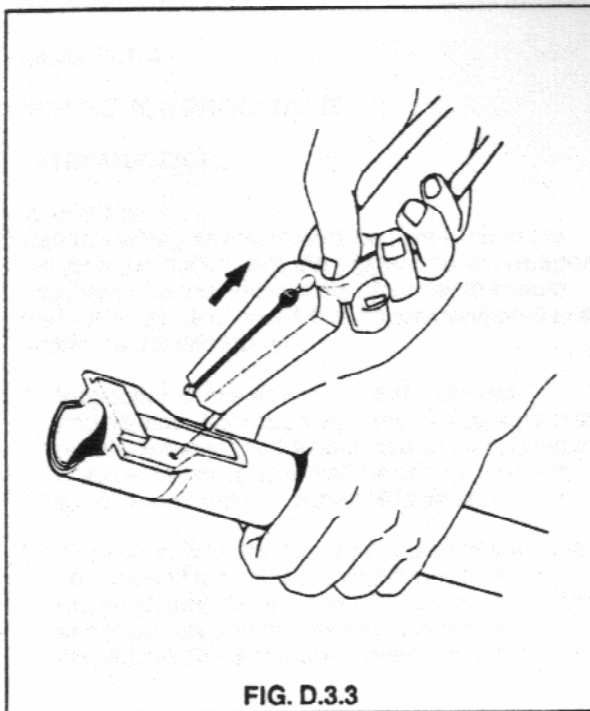

FIG. D.3.3
3. Release the spring from the guide hole by filing away the centre punch marks that retain the spring in the hole. The spring may then be removed with a pair of pliers. See Fig. D.3.3.